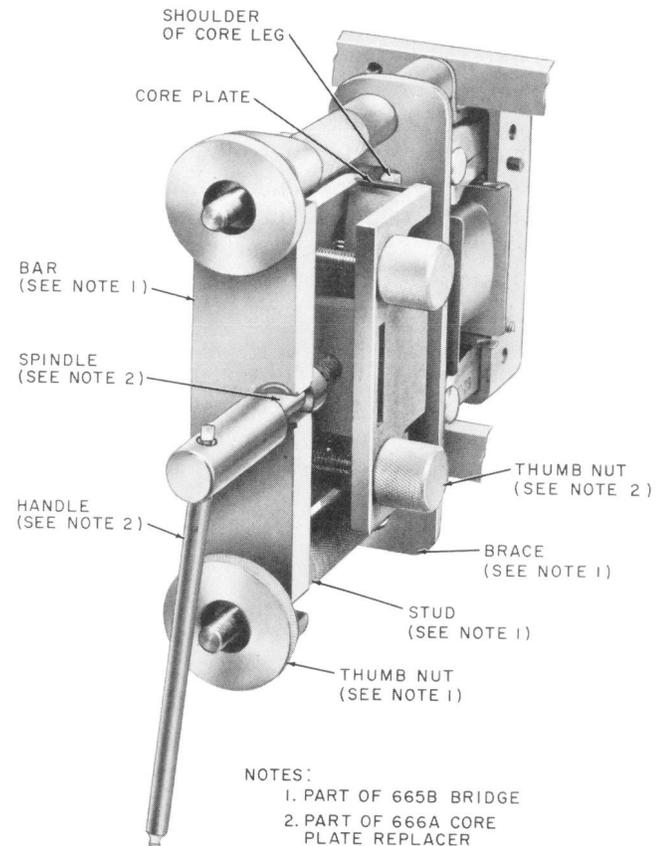

Fig. 9—286-Type Relay Mounting Core Plate
(1) Suspend the brace of the 665B bridge on the longer bridge stud with the longitudinal section of the brace at the right as shown in Fig. 9. Then partially screw the stud into the upper mounting hole of the relay. Insert the other stud of the bridge through the other hole in the brace. Partially screw this stud into the adapter. Position the brace on the studs so it is in line with the relay card and then tighten both studs. The brace limits the lateral strain on the relay during mounting of the core plate. Position the bar of the bridge on the studs with the end of the bar marked TOP uppermost and the notches of the bar at the right. Securely tighten the thumb nuts against the bar.
(2) Slightly loosen the thumb nuts of the core plate replacer so the core plate which was
left in the replacer (3.08) may shift as required for proper assembly on the core legs. Hold the replacer with the thumb nuts at the right. Position the replacer on the relay so the slots in the core plate are in line with their associated legs of the core, the armature extends through the outer hole in the core plate, and the spindle of the replacer is in the center notch of the bridge bar as shown in Fig. 9. Turn the spindle of the replacer counterclockwise until the core plate butts on the shoulders of the top and bottom core legs.